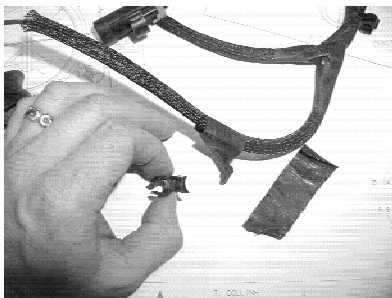

Fig.11
- 2) The rear coolant vent line on 1997-2000 Corvette and 1998-2000 Camaro/Firebird, located in the valley, must be replaced to clear your new high performance manifold. Replace with GM Part #12568478 front only crossover, and (2) #12563325 plugs. Torque vent pipe bolts to 12 N/m (106 in/lbs).
- 3) Remove plastic clips from knock sensor wire harness by unwrapping tape. Discard (Fig.11).